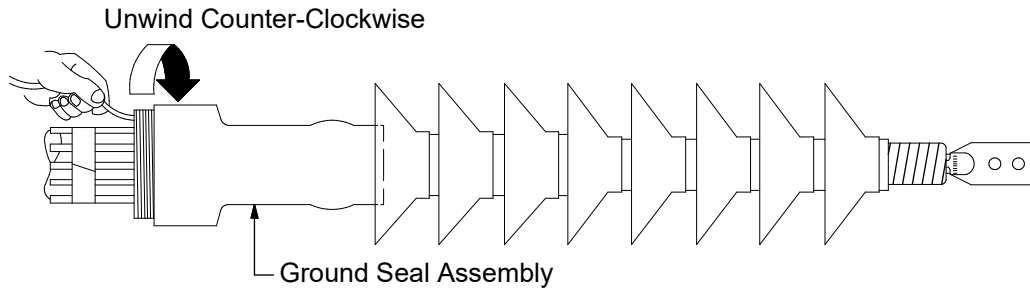

Figure 13
15. Slide the parked ground seal assembly onto the termination. Start to shrink underneath the first skirt. Remove the core by pulling the loose end while unwinding counter-clockwise. (Figure 13)